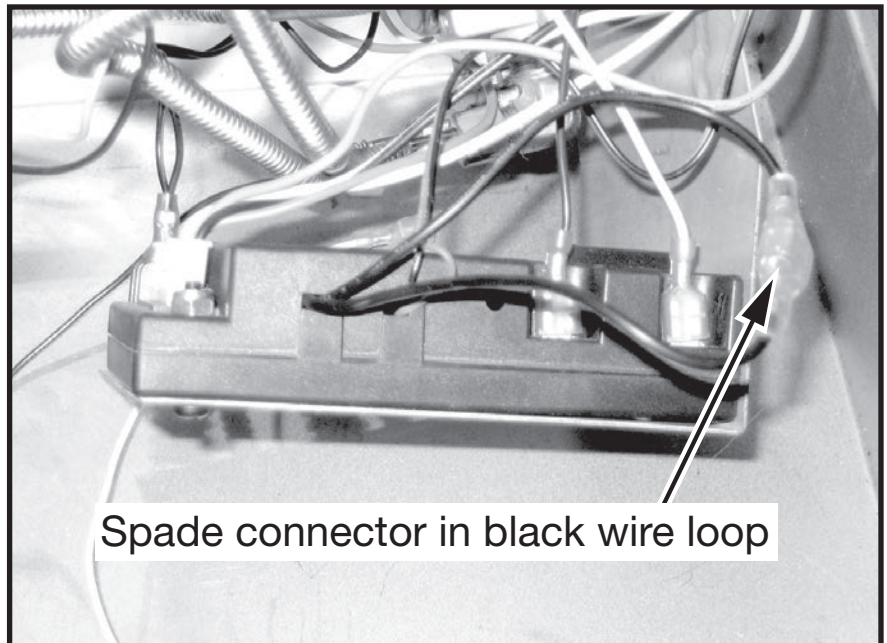
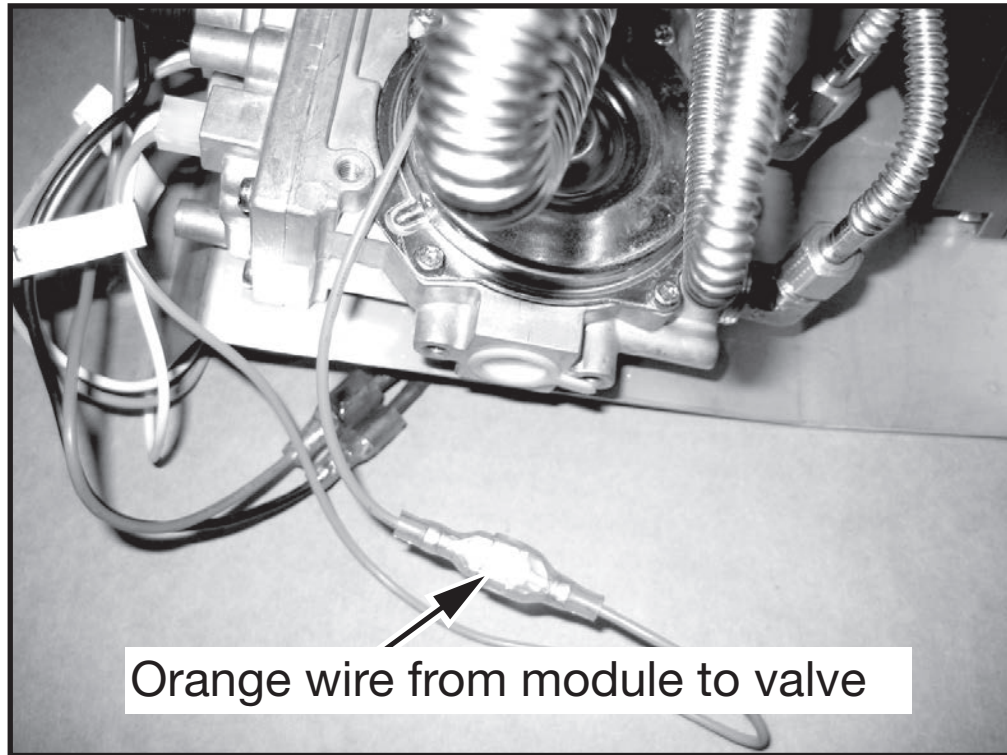

Figure 5: Locating black wire spade connector.
Figure 6: Locating orange wire.
3. Locate and disconnect the spade connectors in the black wire loop on the right side of the module and in the orange wire running from the module to the socket labelled “pilot” on the valve (Figure 5 and Figure 6).